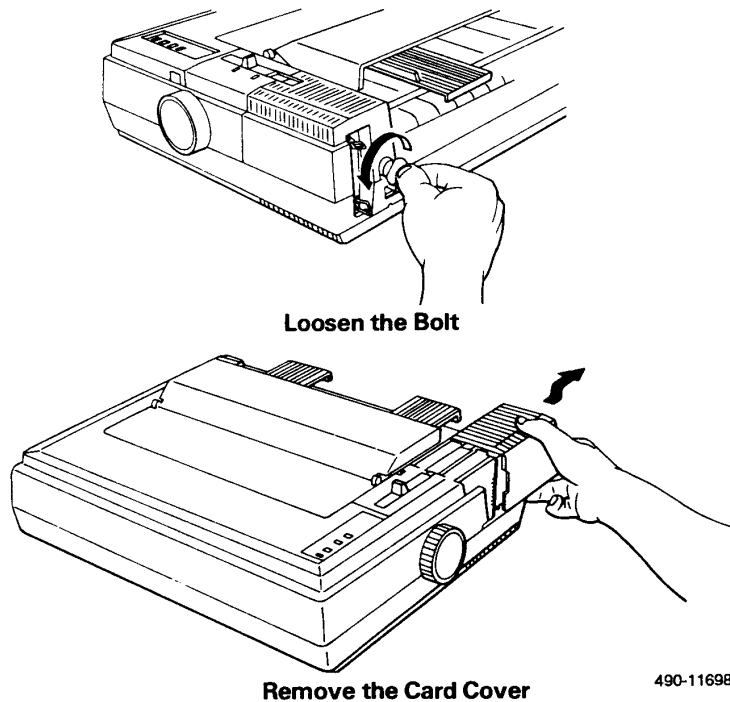

Figure 3-6. DX2300 — Memory and Serial Interface Card Access
2. Loosen the card cover bolt, and then move the paper release lever forward and remove the card cover, as shown in Figure 3-6.